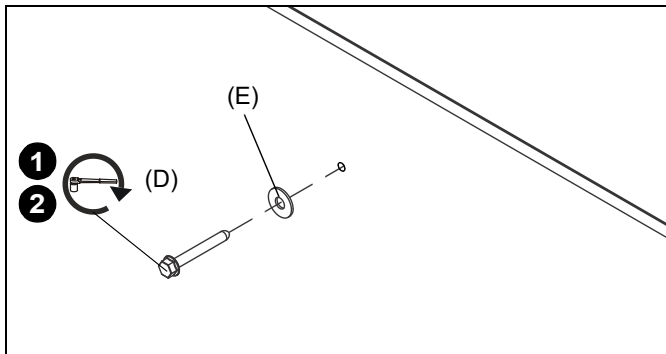

Figure 25
1. Use one 5/16" x 2-1/2" hex flange head lag bolt (D) and one 5/16" washer (E) through product and into pilot hole. (See Figure 25)